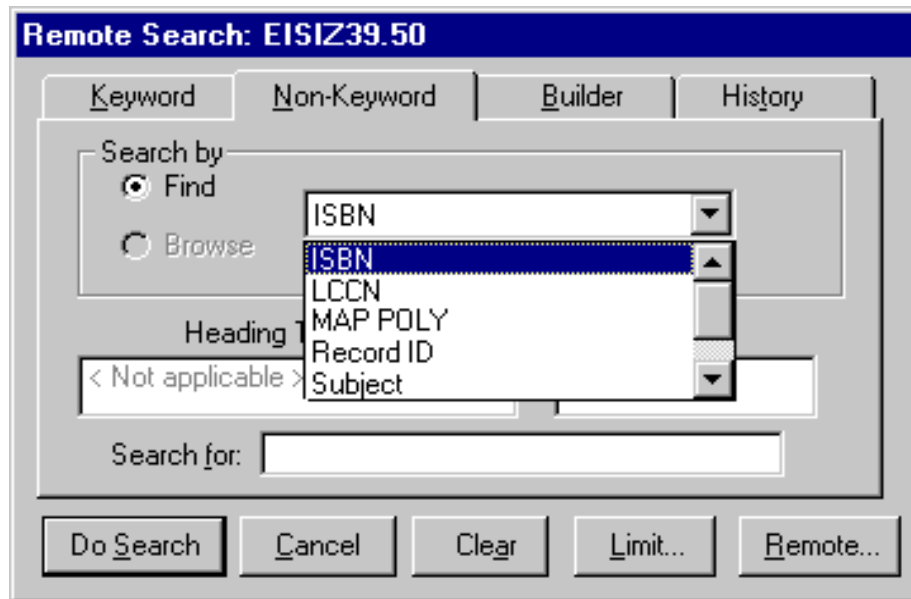

Figure 2-61. Remote Search dialog box, Search by options
- If you are connecting to one database, the **Remote Search** dialog box opens (see Figure 2-61) with the name of the database displayed in the title bar. If available from the remote server, the same search types are available as those in the regular local search display.